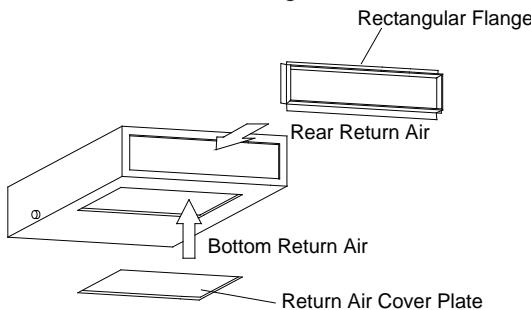

Fig.37
### (2). The default installation location of the rectangular flange is at the back and the return air cover plate is at the bottom, as shown in Fig.37 .